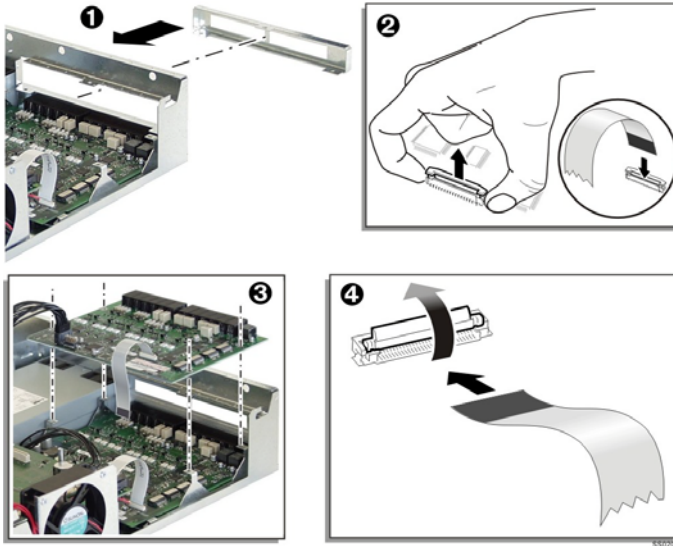

Figure 49: Screws and Standoffs on the Analog Option Board
2. Insert the replacement faceplate into the back of the controller and attach it with screws (1). See Figure 49 on page 177.
4. Attach the flex and power cables. To attach the flex cable, lift up on the tabs at the end of the connector to loosen it, insert the cable label side down, and then press down on the tabs to tighten connector (2).
5. Lower the AOB into place and attach it with the supplied screws (3).
6. Connect the other ends of the flex cable and power cable where indicated in Figure 49. The horizontal flex cable connector is hinged: flip up to loosen it, insert the cable, and then press down to tighten (4).